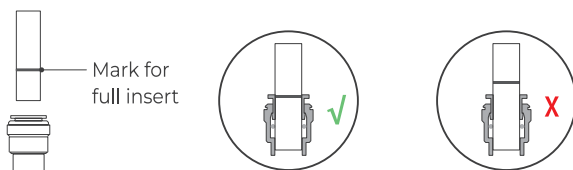

Figure 1
- There is an existing mark (**Figure 1**) at the end of the tubing for you to confirm if the tubing is fully inserted into the fitting.